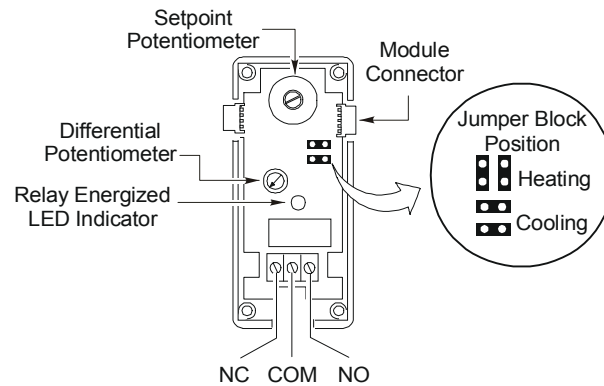

Figure 2: Interior View of S350C Module
The S350C Module features an adjustable setpoint, with both Fahrenheit and Celsius scales, which is independent of the A350's setpoint. The S350C Module's setpoint is defined as the temperature at which the S350C Module's relay will de-energize. With the mode jumper in either the cooling or heating mode of operation, the relay will de-energize when the sensor temperature reaches setpoint. The setpoint can be adjusted between -30 and 130°F (-34 to 54°C). Adjustment is made using the setpoint potentiometer shown in Figure 2.
Differential is defined as the change in sensor temperature between energization and de-energization of the relay. The differential can be adjusted between 1 and 30°F (0.5 to 17°C). Adjustment is made using the differential potentiometer shown in Figure 2.
Select the mode by positioning the operation jumpers vertically for heating or horizontally for cooling, as shown in Figure 2. As shipped from the factory, the jumpers are installed in the vertical position.
2. Set the cooling/heating jumpers to the desired position: horizontally for cooling or vertically for heating. See Figure 2.